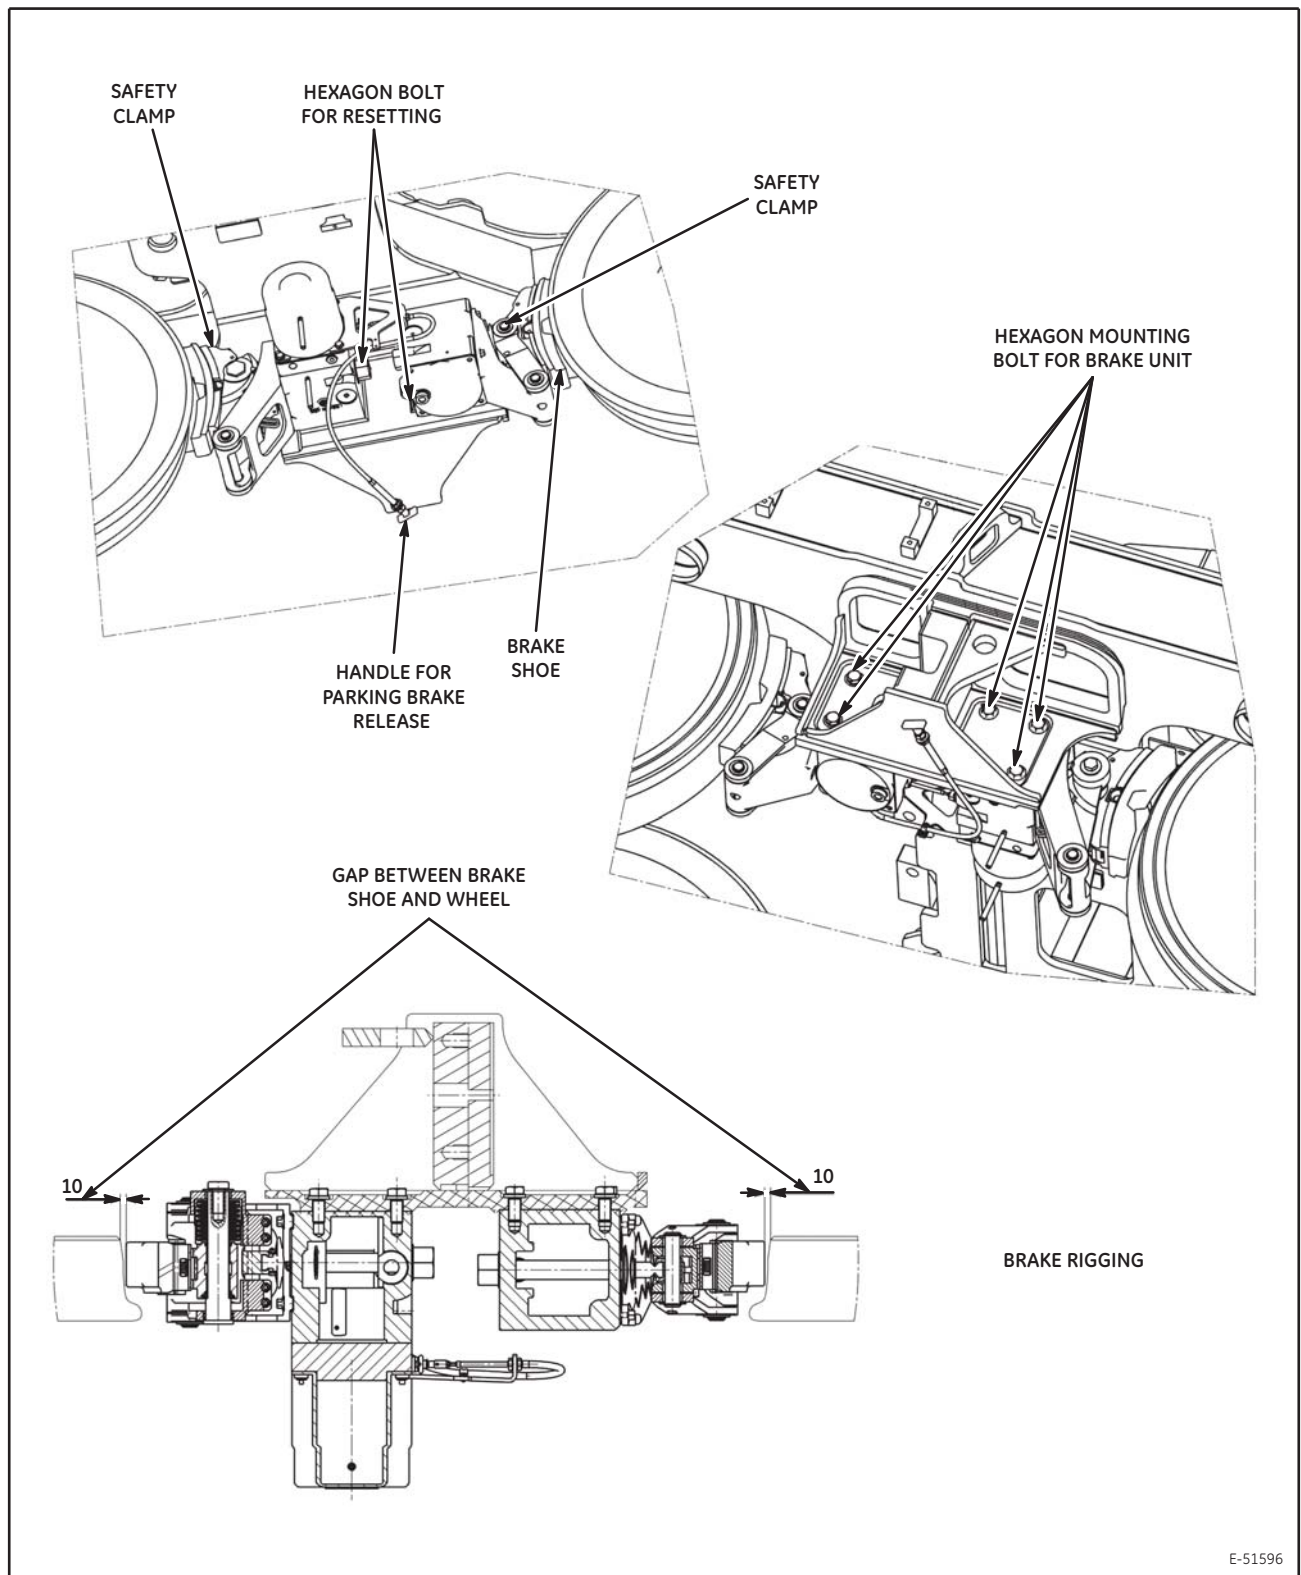

Figure 6. Brake Rigging
NOTE: If the brake units are not functional, remove the hexagon bolts as shown in Figure 6, and remove the brake-unit. Renew/refit the brake-units as required.
2. Release the parking brake (if set), and allow time for the truck wheels to seat against the wheel chocks. Refer to (Figure 6).
4. To adjust the brake system, turn the hexagon resetting bolt. Adjust at the backside of the brake unit (right hand) until the clearance between the brake shoe and the wheel is nearly 10mm (0.40 in.) Refer to Figure 6.